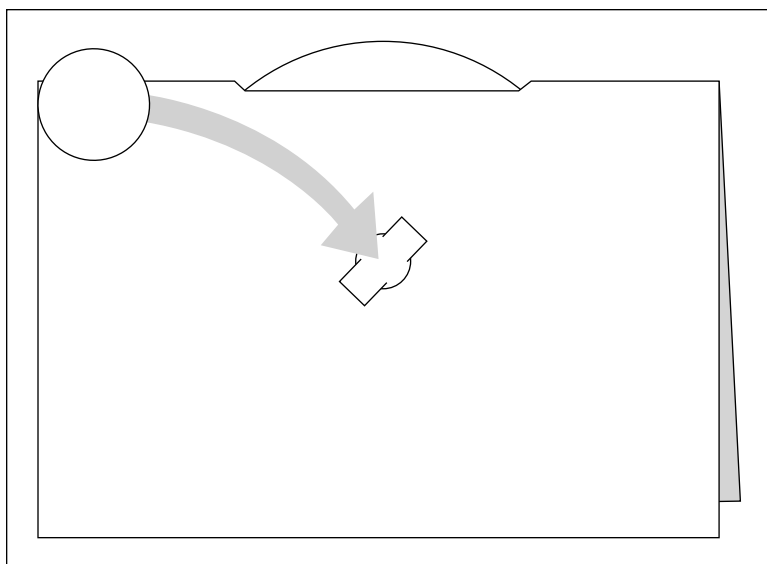

Figure 7-23:
7. Cut a small circle of card and glue it to the tabs sticking out of the back of the card (see Figure 7-23).